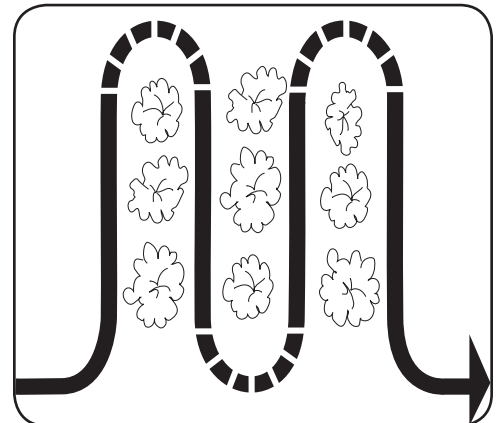

Figure 3-6
- When cultivating (breaking up surface soil around plants to destroy weeds, see Figure 3-6), Adjust the tines to dig only 1” to 2” deep. Using shallow tilling depths helps prevent injury to the plants whose roots often grow close to the surface. If needed, lift up on the handlebars slightly to prevent the tines from digging too deeply. (Cultivating on a regular basis not only eliminates weeds, it also loosens and aerates the soil for better moisture absorption and faster plant growth.) Watering the garden area a few days prior to tilling will make tilling easier, as will letting the newly worked soil set for a day or two before making a final, deep tilling pass.